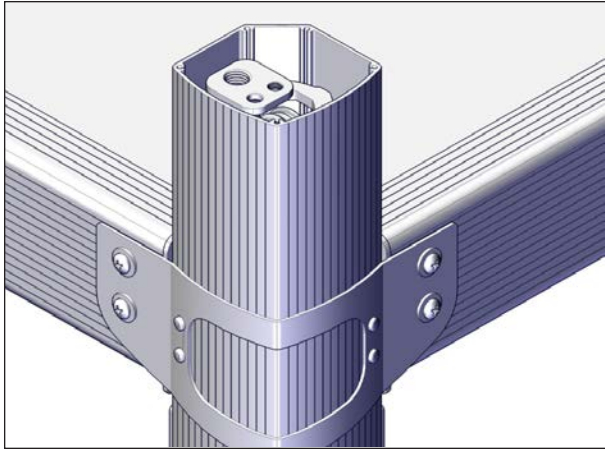

FIGURE 89: INTERNAL JACK
6. Raise the jacks with the key switch. The four internal jacks will raise but the cover panels should stay in place, see Figure 89.